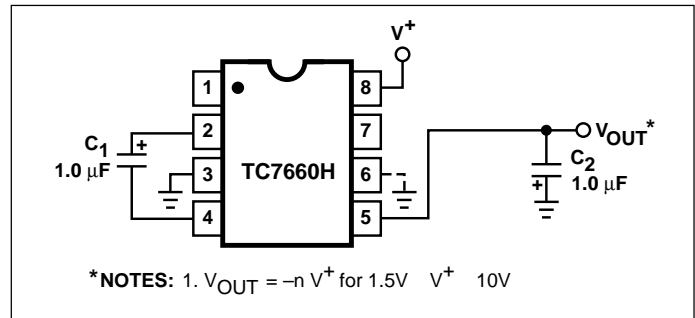
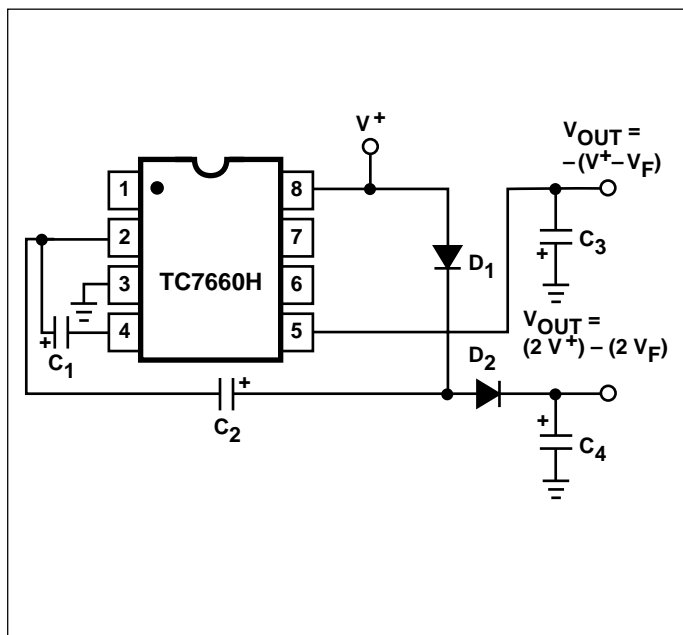

Figure 3. Simple Negative Converter
Figure 8. Combined Negative Converter and Positive Multiplier
Figure 3 shows typical connections to provide a negative supply where a positive supply is available. A similar scheme may be employed for supply voltages anywhere in the operating range of +1.5V to +10V, keeping in mind that pin 6 (LV) is tied to the supply negative (GND) only for supply voltages below 3.5V.
The output characteristics of the circuit in Figure 3 are those of a nearly ideal voltage source in series with 70Ω. Thus, for a load current of –10 mA and a supply voltage of +5V, the output voltage would be –4.3V.
Figure 8 combines the functions shown in Figures 3 and 8 to provide negative voltage conversion and positive voltage multiplication simultaneously. This approach would be, for example, suitable for generating +9V and -5V from an existing +5V supply. In this instance, capacitors C_1 and C_3 perform the pump and reservoir functions, respectively, for the generation of the negative voltage, while capacitors C_2 and C_4 are pump and reservoir, respectively, for the multiplied positive voltage. There is a penalty in this configuration which combines both functions, however, in that the source impedances of the generated supplies will be somewhat higher due to the finite impedance of the common charge pump driver at pin 2 of the device.